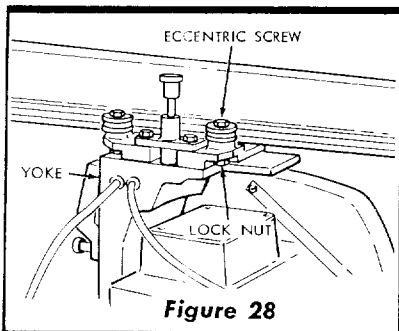

Figure 28
4. Rotate the yoke still farther (figure 28) to position the cutout under the forward eccentric lock nut to provide access for the wrench and adjust the forward carriage bearing as described in preceding instructions.